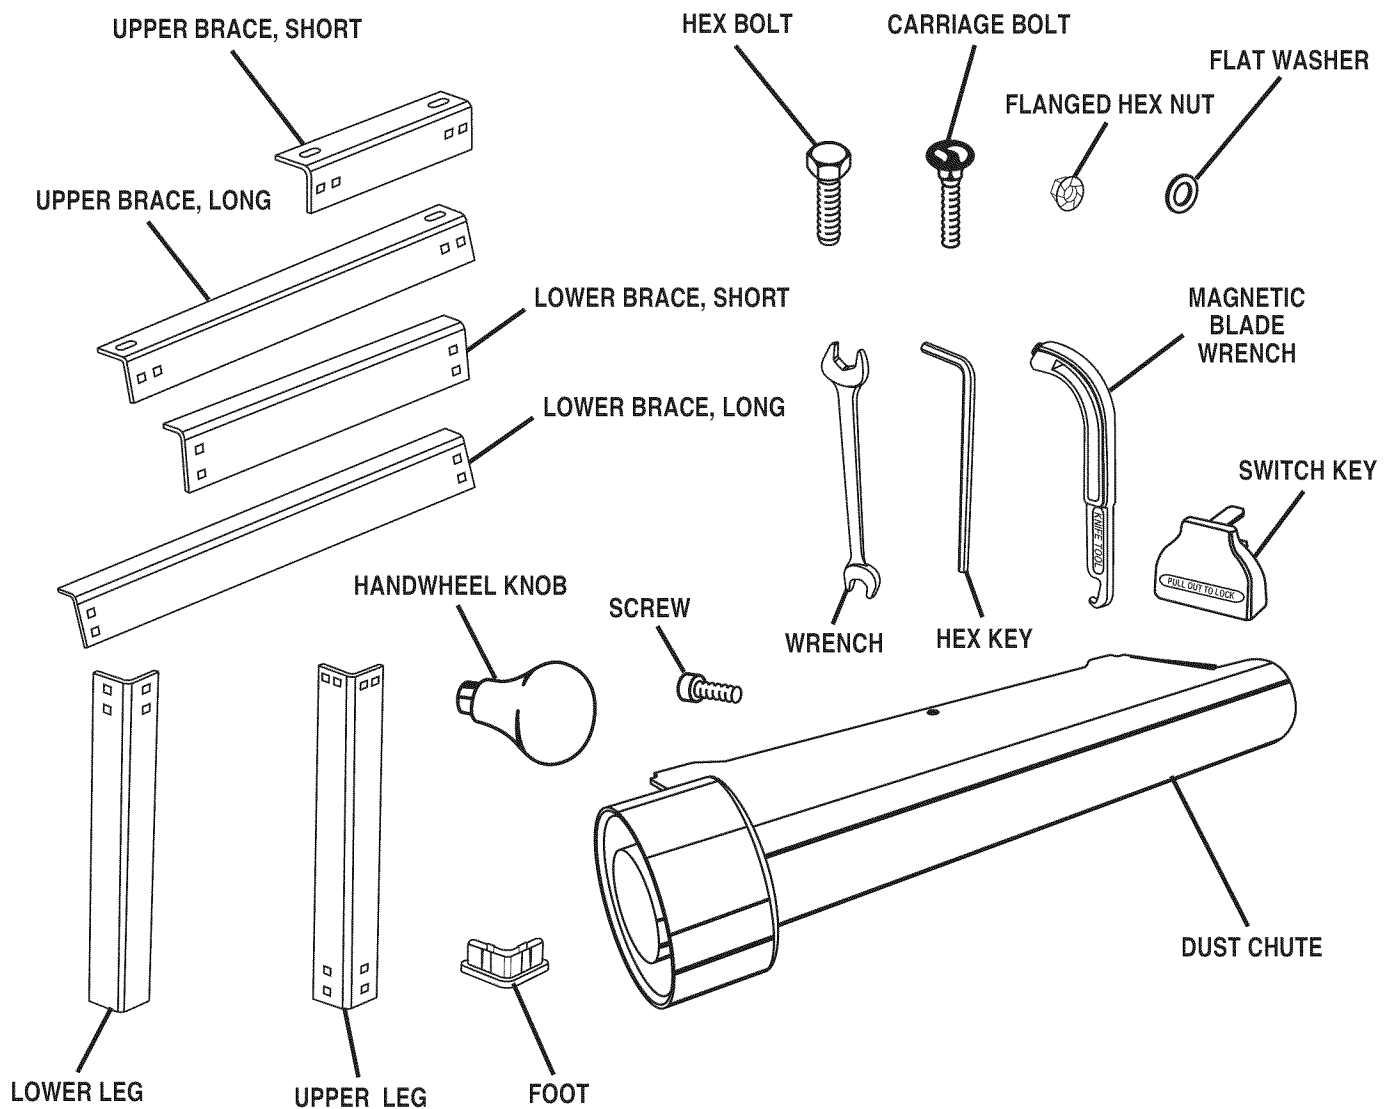

Fig. 4
- Remove all loose parts from the carton. Separate and check with the list of loose parts. *See Figure 4.*